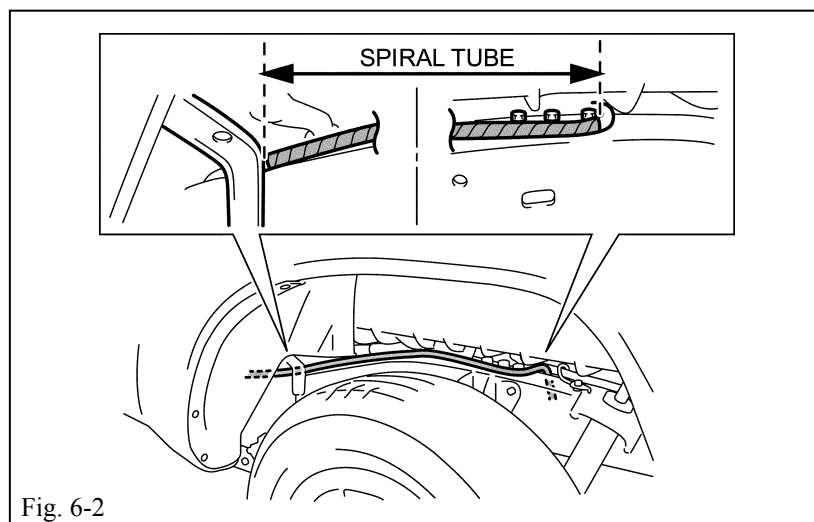

Fig. 6-2
- (1) Route the wire harness spiral tube to the position shown in the figure. (Fig. 6-2)